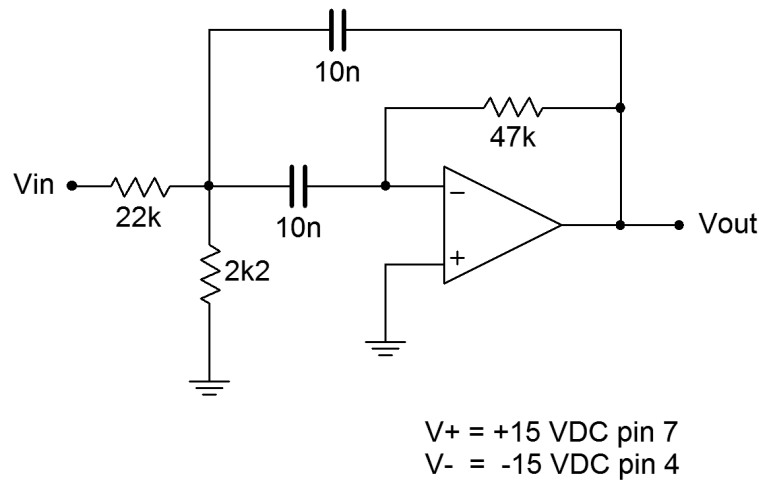

Figure 1
1. The circuit of Figure 1 is a second order band pass filter. Calculate and record the center frequency ( $f_0$ ) and mid-band voltage gain in Table 1.
2. Assemble the circuit of Figure 1 using the medium speed op amp.
8. Build the circuit of Figure 1 in a simulator and run an AC Analysis. Be sure to run the plot from 10 Hz to approximately 100 kHz and use a decibel scale for the gain amplitude. Compare the plot to the graph generated from Table 2.